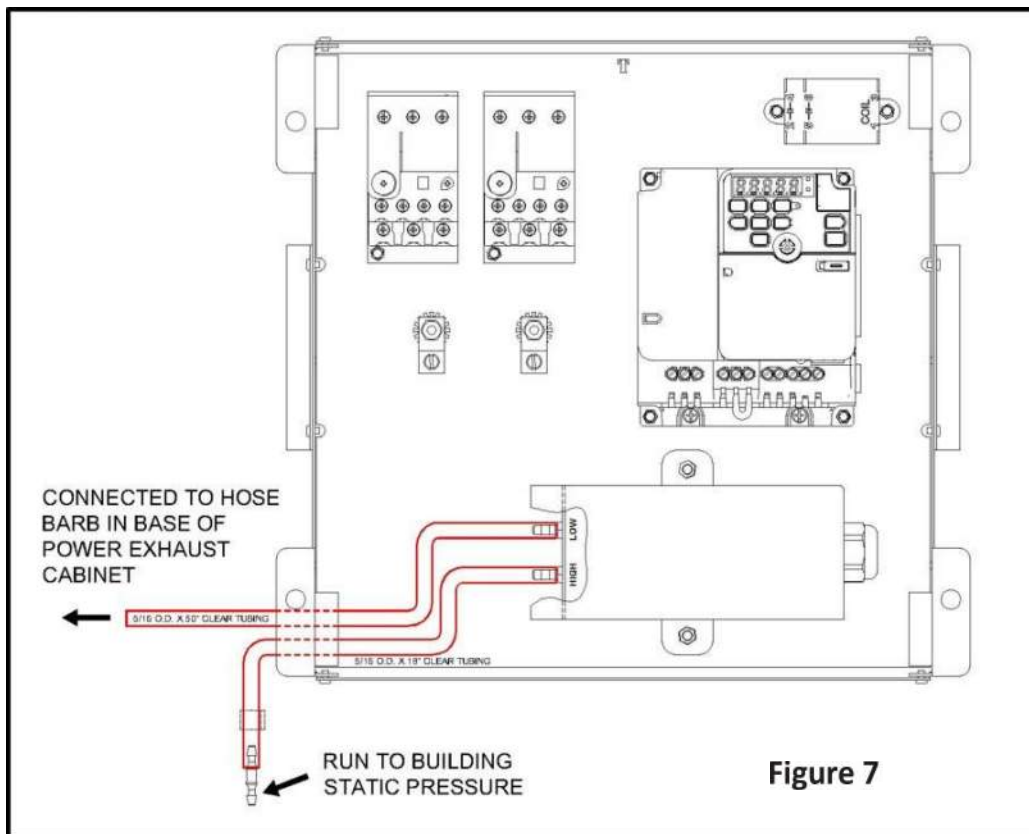

Figure 7
15. The installer will be responsible for providing Clear Vinyl Tubing, 5/16" O.D. X 3/16" I.D. (Parker P/N PV53-1 or equal), to connect from the High Pressure hose barb on the side of the control box, to a predetermined location of where the building static pressure will be measured from. Typically, this would be a wall plate mounted in a centrally located pick-up location, away from drafts. Connect per Figure 7.